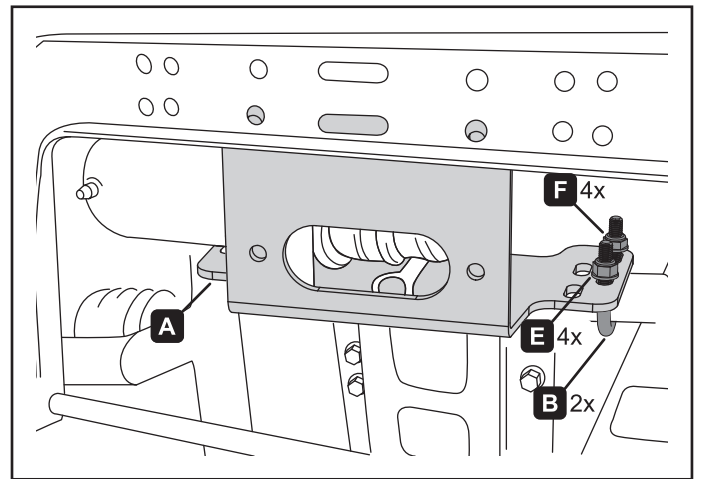

Figure 3.
3. Loosely install the winch mount (A) with U-bolts (B), washers (E) and nuts (F). See figure 3.
4. Install your winch and fairlead to the winch mount (A).